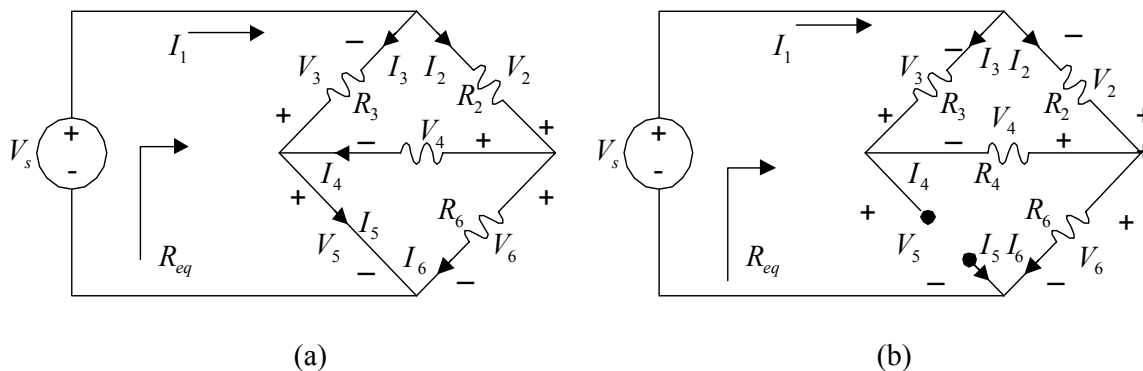

Figure2
- 1- Check the values of resistors used in the circuit of Figure 2, using the multimeter. Record the values in Table 1.